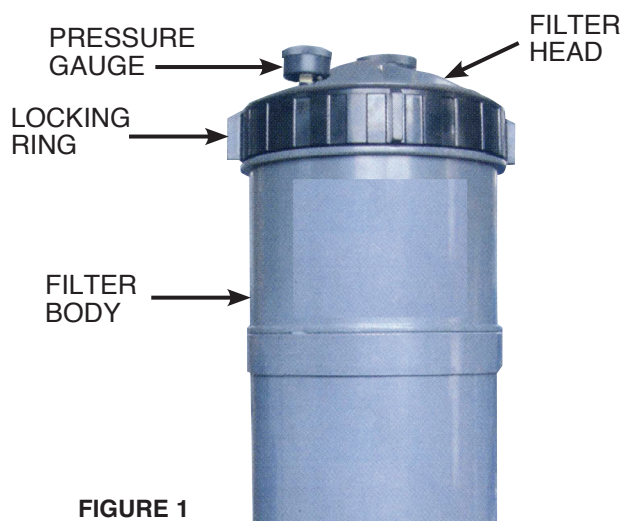

FIGURE 1
2. Remove filter lid by turning Locking Ring counter clockwise Figure 1. Remove lock ring by lifting straight up over tank.
9. Attach pressure gauge and air release valve as shown in Figure 1. Apply Teflon tape to threads of pressure gauge.